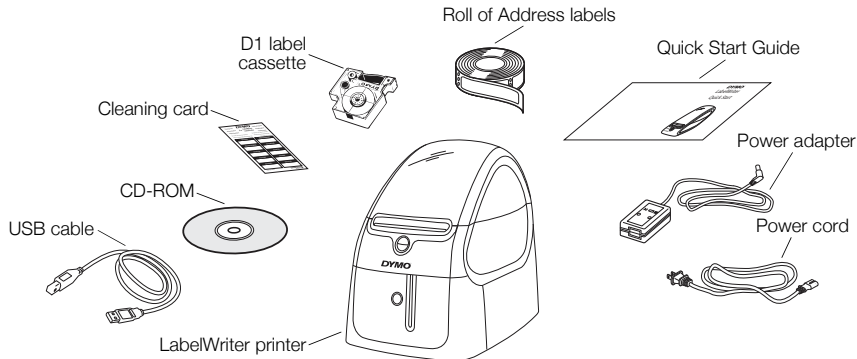

Figure 1
- 2 Make sure you have all the items shown in Figure 1. (Labels included in the package may vary.)